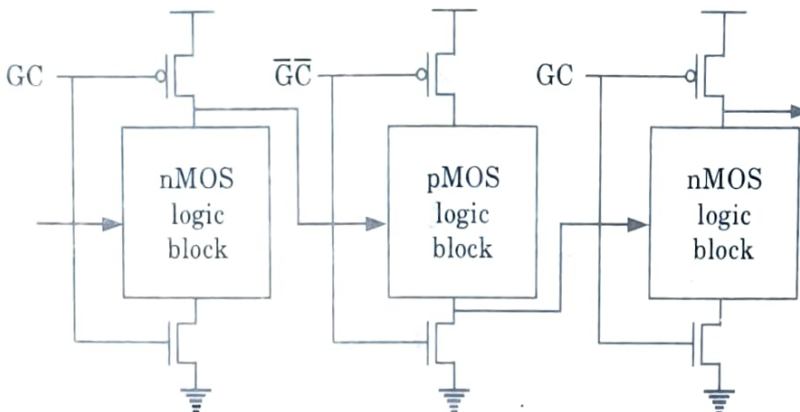

Fig. 3.11.1. NORA CMOS cascaded gates.
3. The cascaded NORA gate structure is shown in Fig. 3.11.1.